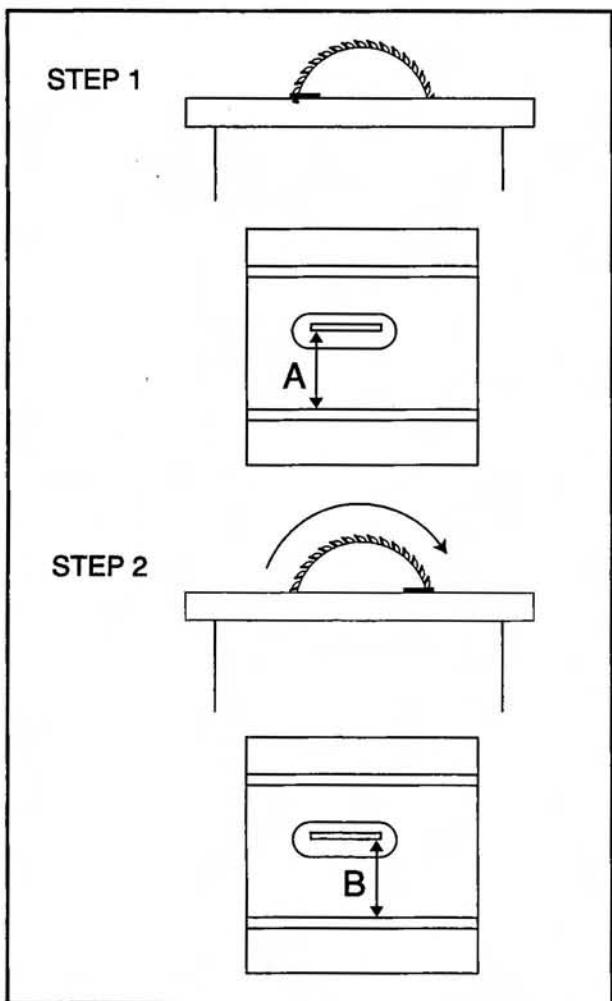

Figure 37.
1. Using an adjustable square, measure the distance between the miter slot and the front of your blade. **Figure 37.**